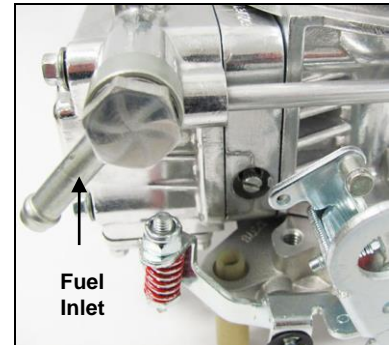

Figure 3
5. Connect the fuel feed line along with an appropriate inline filter (**Figure 3**).